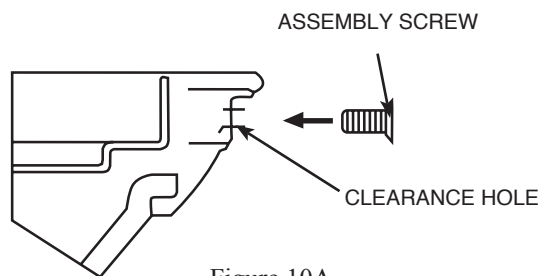

Figure 10A
Secure the globe assembly to the fitter using (3) screws found in sack parts. See Figure 10A.